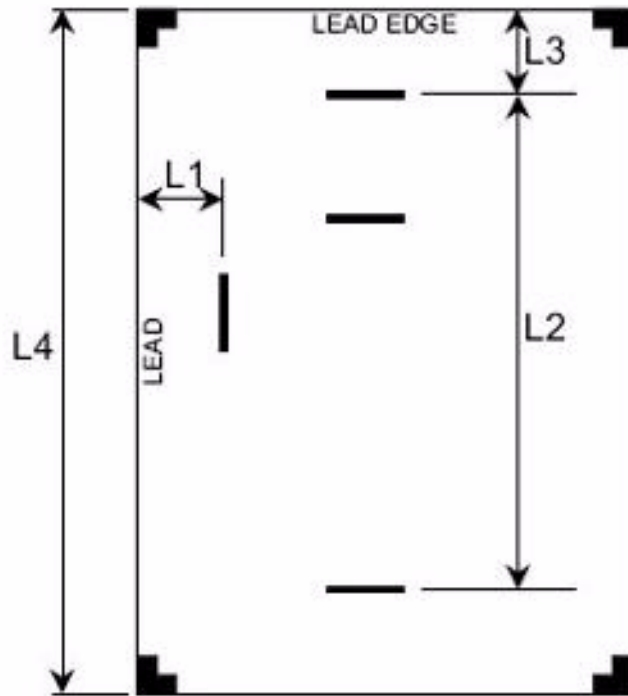

Figure 1 IIT Chart
7. Measure the **L3** length on each of the scanned images (Figure 1).